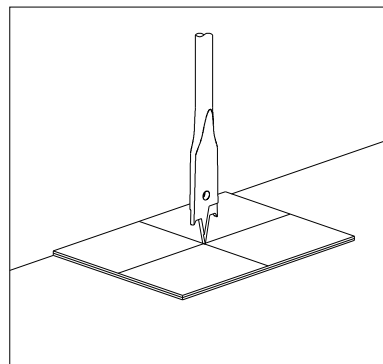

Figure 2
9. To prevent drilling into your work surface, place a piece of scrap wood under the edge reinforcement panel and curtain. Drill a 9/16-inch hole in the edge reinforcement panel and curtain at each marked grommet position. (see Figure 2).